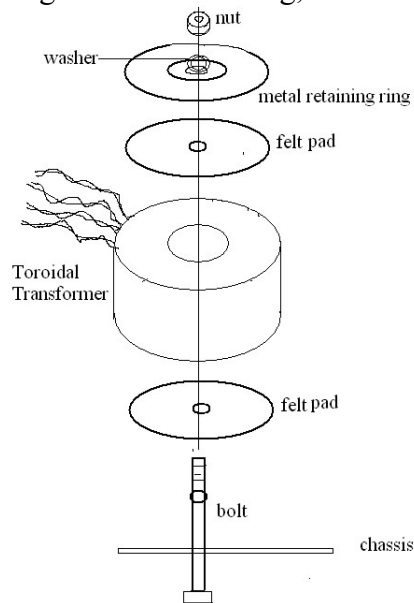

Figure 49-Toroidal Transformer Mounting
4. Mount the toroidal transformer to the chassis using the hardware shown in Figure 49. Orient the toroid and power wiring as shown on the front cover of this manual. Make sure the mounting hardware and toroid are centered before tightening the mounting bolt. Make it snug, but do not over-tighten.